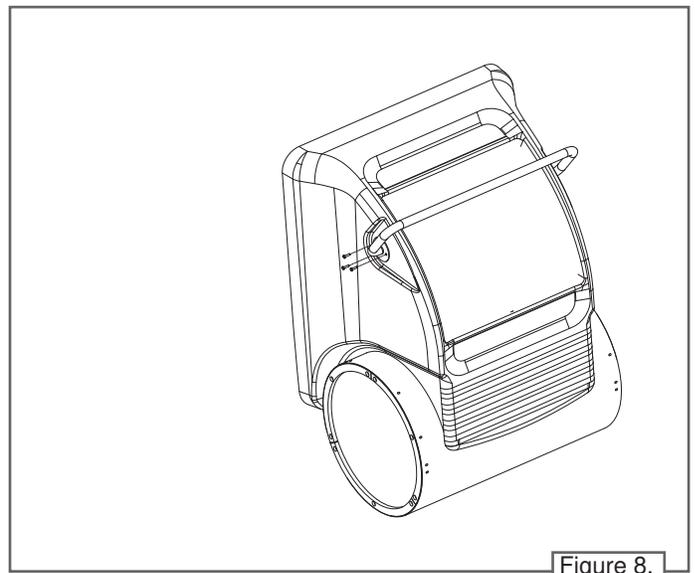

Figure 8.
8. The Swim Machine Skin, Grab Bar and 6 Screws will be packaged separately. Place the skin over top of the swim machine and then position the stainless steel grab bar. Secure the grab bar to the grab bar mounting seat (attached to the swim machine housing) through the holes in the skin with 6 screws. **Figure 8.**